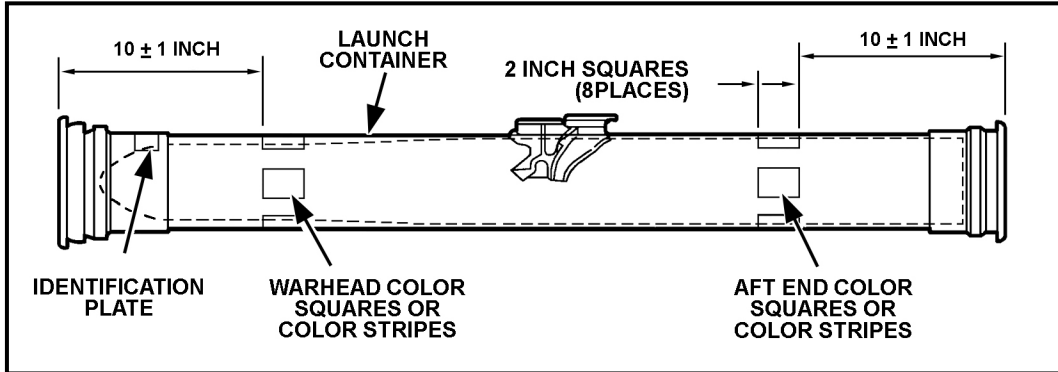

Figure 1-31. Launch container markings.
- f. Check the launch container for the proper markings, identification, and color coding (Figure 1-31 and Table 1-4 [page 1-31]).